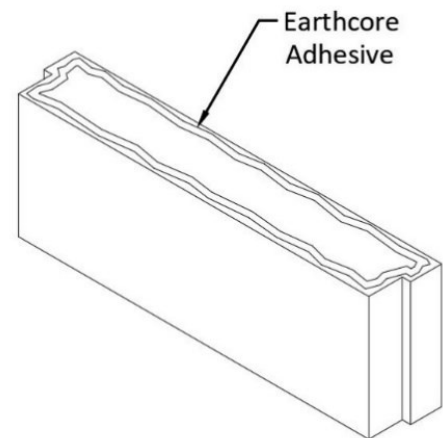

FIGURE 6
**NOTE:** It is important that a ½” bead of Earthcore Adhesive is piped onto all the components’ contact surfaces, about ½” in from all edges (**Figure 6**).